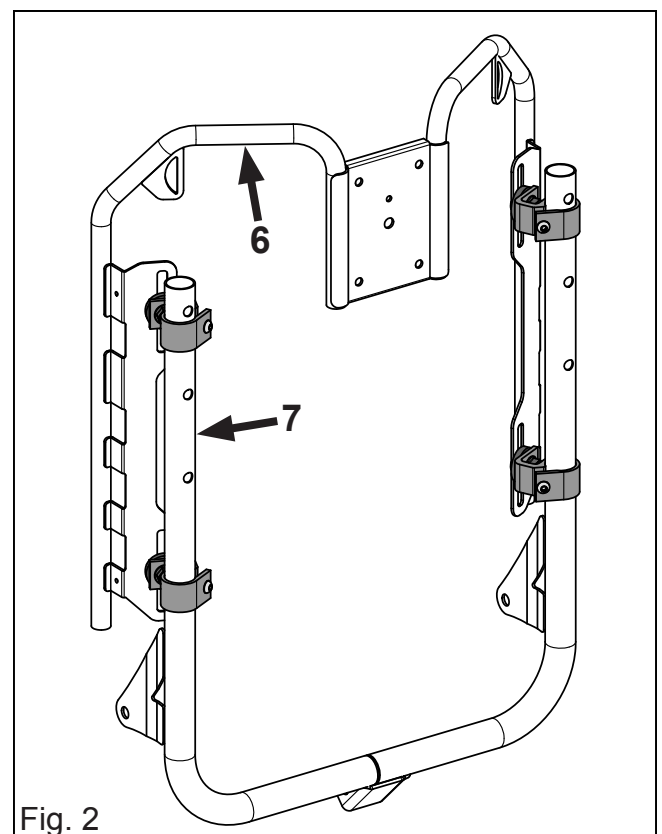

Fig. 2
5. Position the upper Flexi back brackets (3) about 3 cm below the top edge of the back frame (7) and the lower Flexi back brackets about 23 cm lower on the back frame, see figure 2. Make sure that everything is in the right position and in the right angle.